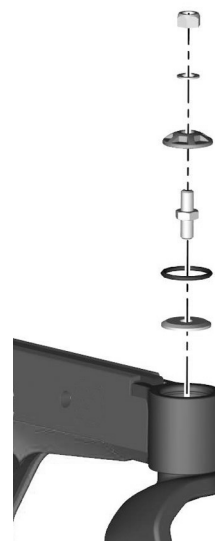

Figure 415. An early revision of the friction brake.
- i** This step does only apply if the wheelchair is equipped with an early revision of the friction brake (see Figure 415).